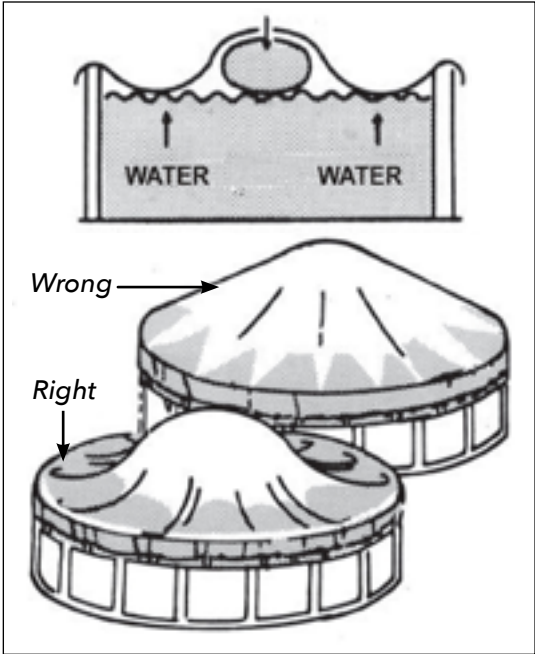

figure 1
2. Inflate ice equalizer pillow 3/4 full and secure in pool center by tying grommets ends to pool side wall. These support lines should not be too tight, but allow the equalizer to float up and down on the water. (*figure 1*)